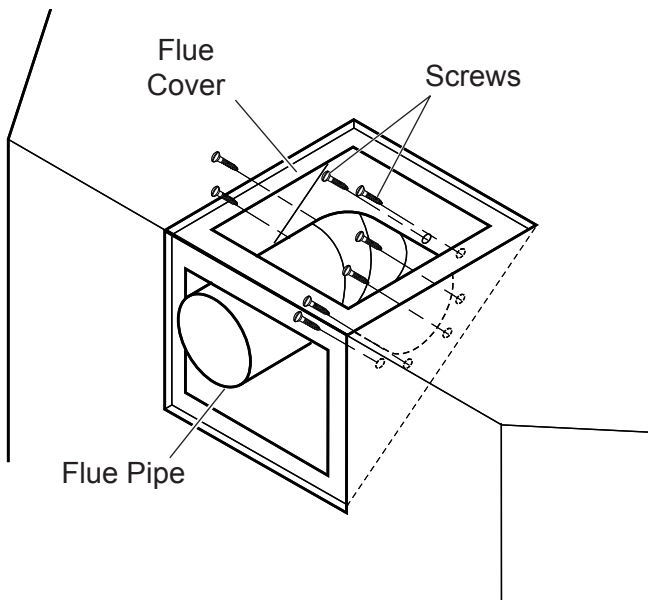

Figure 13 - Removing Flue Pipe
4. Remove eight (8) screws securing the flue pipe to the back of the intake box and remove the pipe and gasket. *See Figure 13.*
5. Replace flue pipe to top of firebox. Ensure the gasket is in place and undamaged. Secure with eight (8) screws. *See Figure 13.*
7. Refit the flue pipe adapter and gasket to the top of fireplace. Secure the adapter with eight (8) screws removed in step 1.